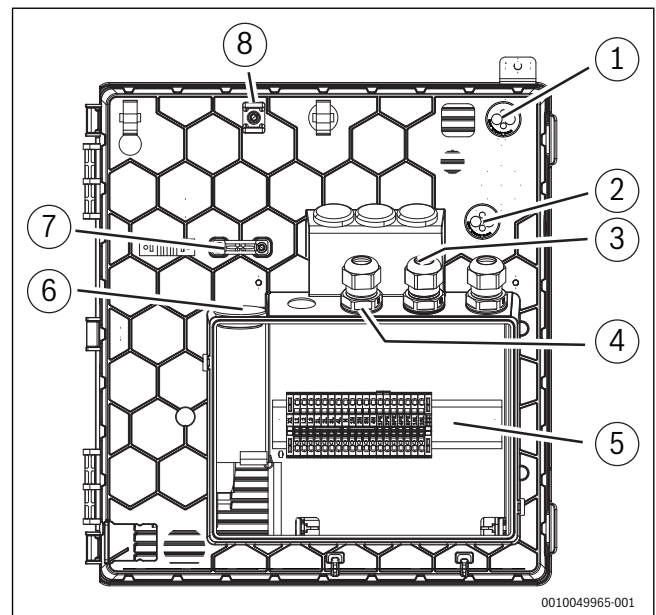

Fig. 32 Cable feeds to electric box
- Fix the cables with cable ties at the fixing points (→Figure 32 [7] and [9]). Avoid crossing the cables.
For cable feeds (→Figure 32 [1], [2], [7]) a small prick in the membrane is enough, then the lines can be pushed through.
- ▶ After inserting the cables, tighten the cable glands (→Figure 32 [3], [4], [5]).
- ▶ Use the defined fixing points [9] to fix the cables that was inserted through the entries (→Figure 32 [1], [2]).